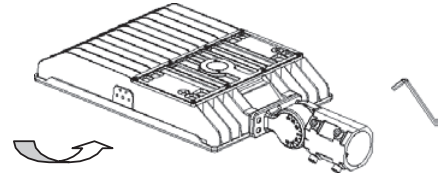

figure 3
3. Run leads through slip fitter and attach slip fitter to knuckle. (see fig 3)